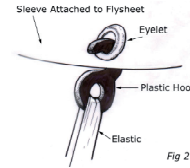

Fig 2
7. Then, working systematically, using the hooks attach the inner to the eyelets located on a fabric tabs sewn to the inside of the flysheet (see figure 2).